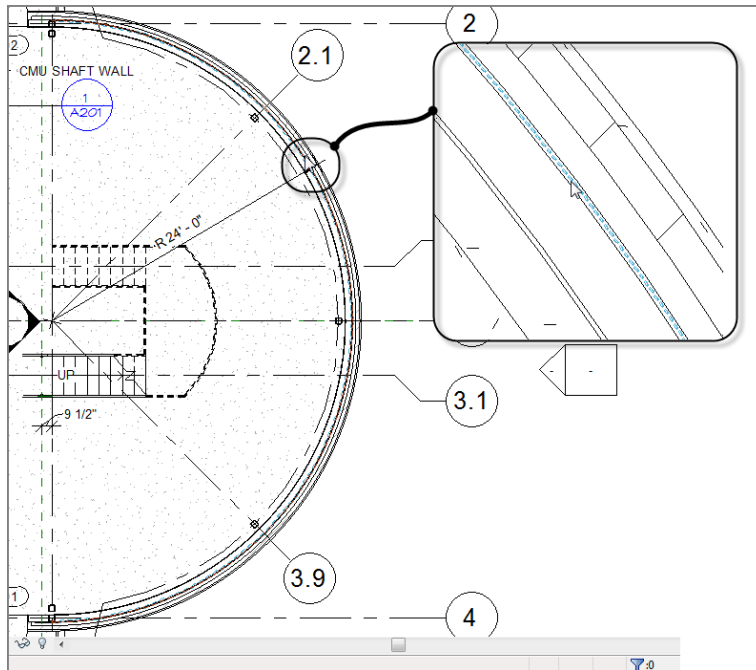

FIGURE 16.25: Picking the radial entry wall to add the curtain wall
16. Pick the radial entry wall, as shown in Figure 16.25. Make sure you're picking the wall centerline.